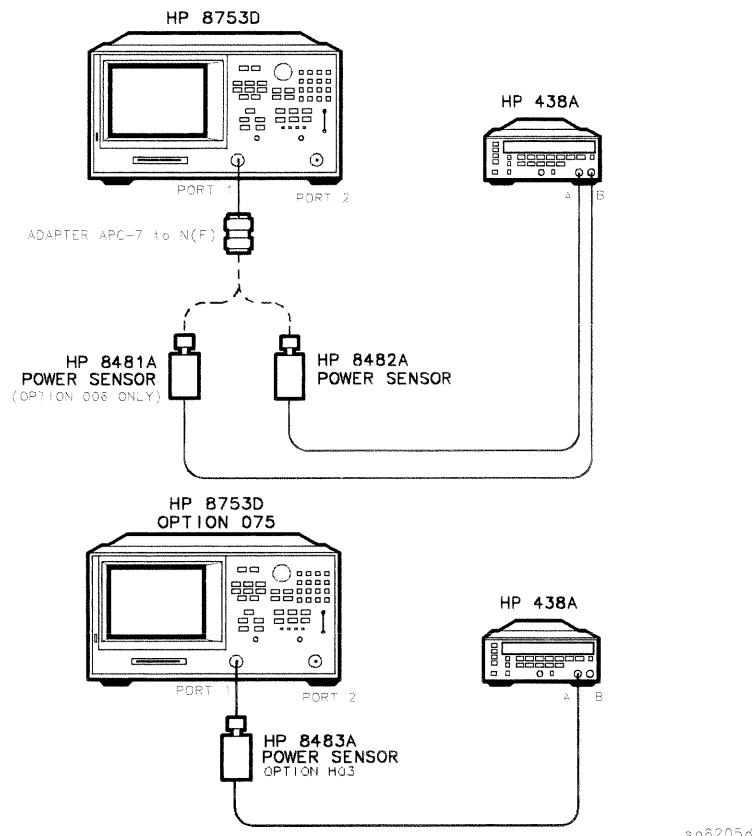

Figure 2-16. Source Output Power Accuracy Test Setup
2. Connect the equipment as shown in Figure 2-16.